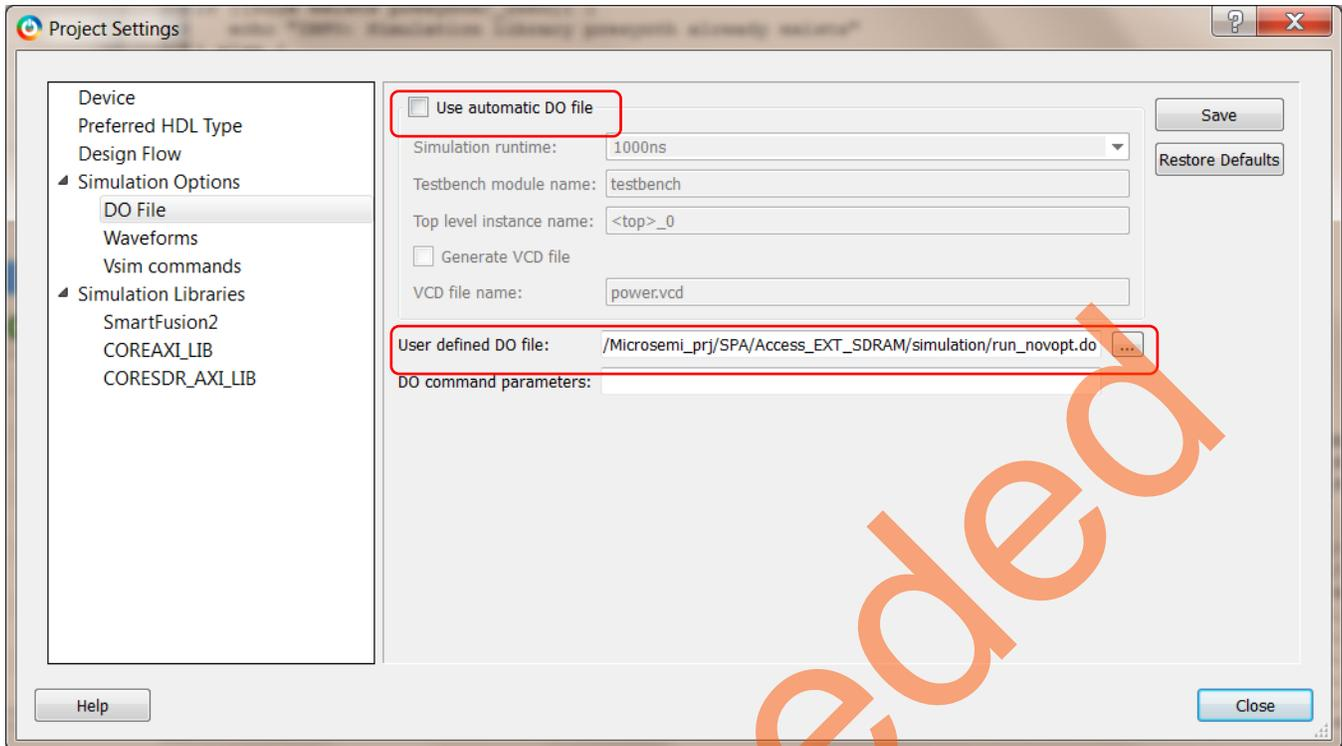

Figure 31. Specifying run_novopt.do for VHDL ModelSim Full Version
- A .do file, **run_novopt.do** that has the switch already set, is provided along with the source files in the tutorial zip files. To use the provided run_novopt.do file, clear the **Use automatic DO file** check box and browse to the location of the provide run_novopt.do file, as shown in Figure 31.